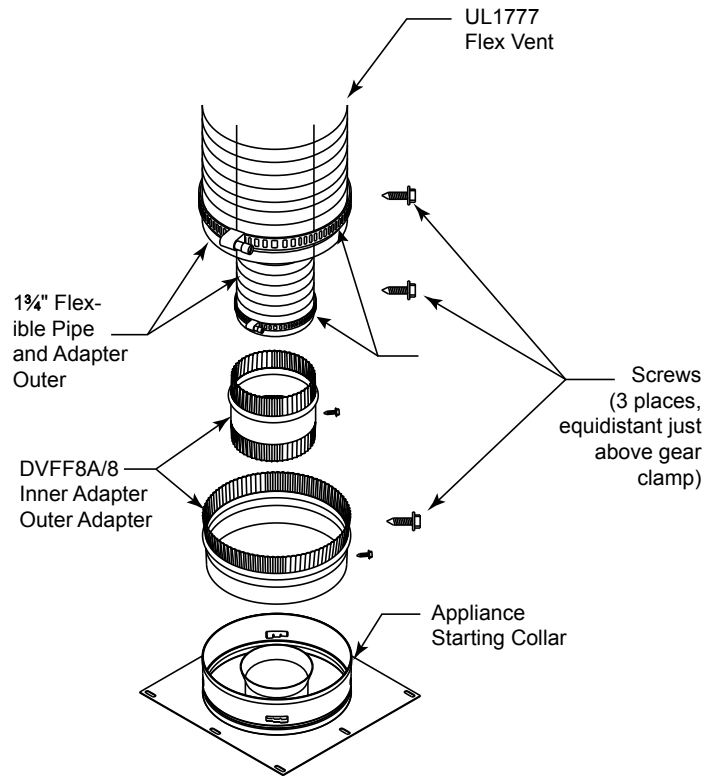

Figure 6.5 - Typical Appliance Connection
- The flex adapter starter kit (DVFF8A/8) is used to attach flex venting to the appliance starting collar. It includes 5" inner and 8" outer adapter rings. See Figure 6.5.
- Installing the inner flex adapter and pipe. See Figure 6.5.
- Installing the outer flex pipe. Figure 6.5